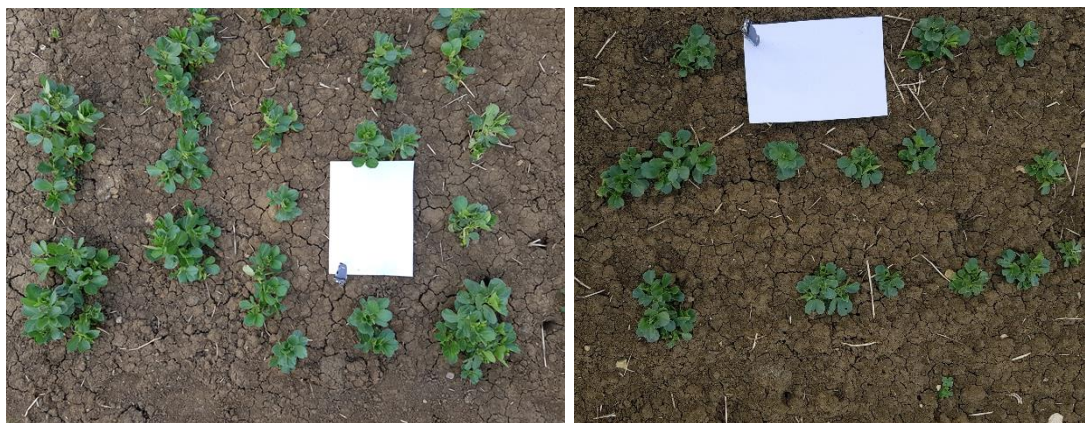

Figure 1. Example photographs for plant population estimate
- **Alternatively**, plant counts can be calculated from photographs. Take images at three locations from within the 2ha area entered in the YEN. Take the photo from above the crop looking vertically down, showing as wide an area as possible. It is important to include an A4 piece of paper flat on the ground for scale. See examples in Figure 1. Photos can be uploaded using the online forms.